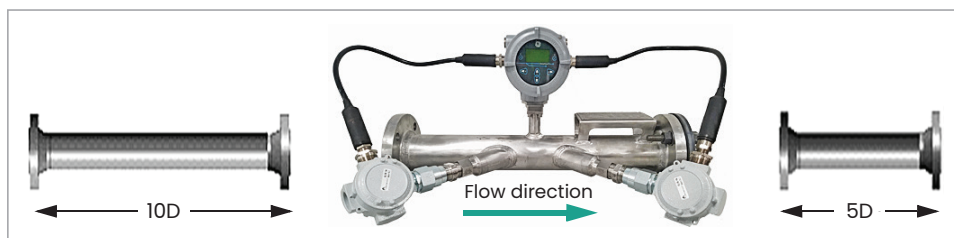

Figure 4: Minimum straight run pipe requirements
- Locate the flowcell so that there are at least 10 pipe diameters of straight, undisturbed flow upstream and 5 pipe diameters of straight, undisturbed flow downstream from the measurement point (see figure 4). Undisturbed flow means avoiding sources of turbulence in the fluid (e.g., valves, flanges, expansions, elbows, etc.), avoiding swirl, and avoiding cavitation.